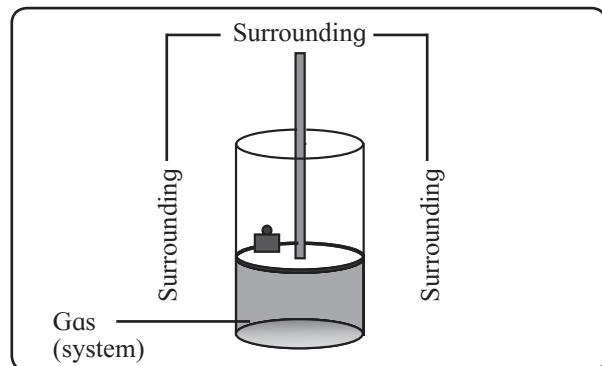

Fig. 4.1 : System and surroundings
4.2.1 System and surrounding : Consider a gas enclosed in a cylinder equipped with a movable piston as shown in Fig. 4.1. Suppose we undertake study of change in volume of a gas and the amount of energy released or gained by a gas when the pressure is varied by
4.2.4 State functions : As shown in Fig. 4.1, certain amount of a gas is enclosed in a cylinder fitted with a movable piston. Suppose the pressure of the gas is 1 bar (P_1), volume is 1 dm^3 (V_1) and temperature is 300 K (T_1) in the beginning. This initial state of the system is fully defined by specifying the values of these properties. Such properties defining the state of a system, are **state functions**.
Consider a gas enclosed in a cylinder fitted with a movable piston shown in Fig. 4.1. The gas has temperature T_1 , pressure P_1 and volume V_1 . These state functions continue to be constant as long as piston is motionless, and no heat exchange takes place. This is an equilibrium state.